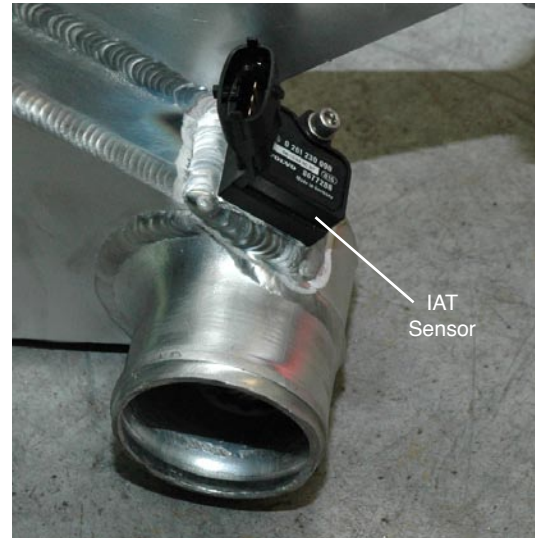

Figure 4.1
the on the factory intercooler. Refer to Figure 4.1 to ensure proper orientation of the sensor relative to the intercooler.
- Carefully insert sensor into new intercooler. Position as shown in Figure 4.1.